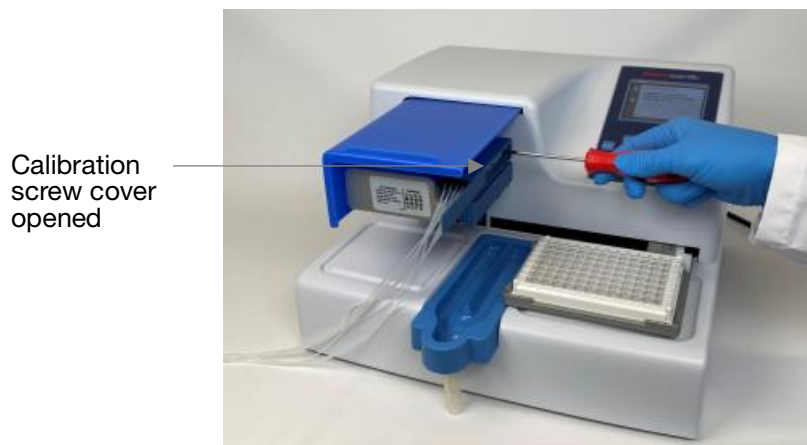

Figure 6-61. Screwing a calibration screw according to the calibration results
13. If the balance reads < 100 mg (small tube cassette)/ < 1000 mg (standard tube cassette), turn the calibration screw counterclockwise, one turn corresponding to approximately $0.1\ \mu\text{l}$ (small tube cassette)/ $1\ \mu\text{l}$ (standard tube cassette). If the balance reads > 100 mg, turn in the opposite direction (Figure 6-61). Recheck the delivery after each adjustment using steps 8 to 10. Three acceptable calibrations must be obtained.